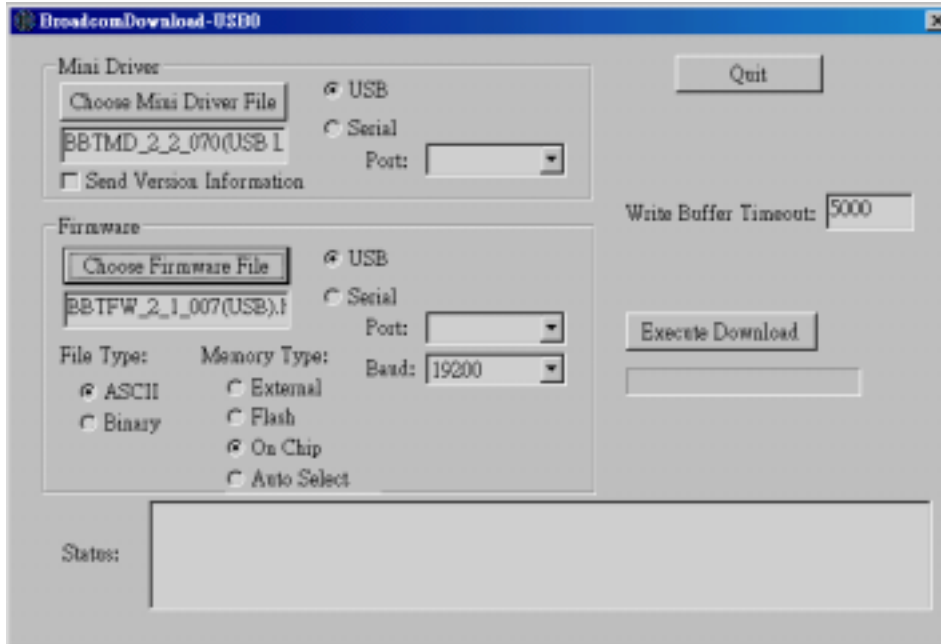

Figure 2: Downloader Configuration for USB Interface
5. In the “**Firmware**” box, please select “**USB**”, “**ASCII**”, and “**On Chip**”. Then click on “**Choose Firmware File**” to select the appropriate firmware. For USB interface, the user shall select “**BBTFW_2_1_007(USB).hex**” in the “**Firmware**” directory. (as Figure 2)